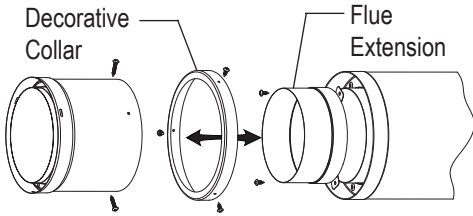

Figure 5
3. **Attaching DVL to DT Canada and DT Premium (Decorative Collar Assembly) (Figure 5 and 6)**